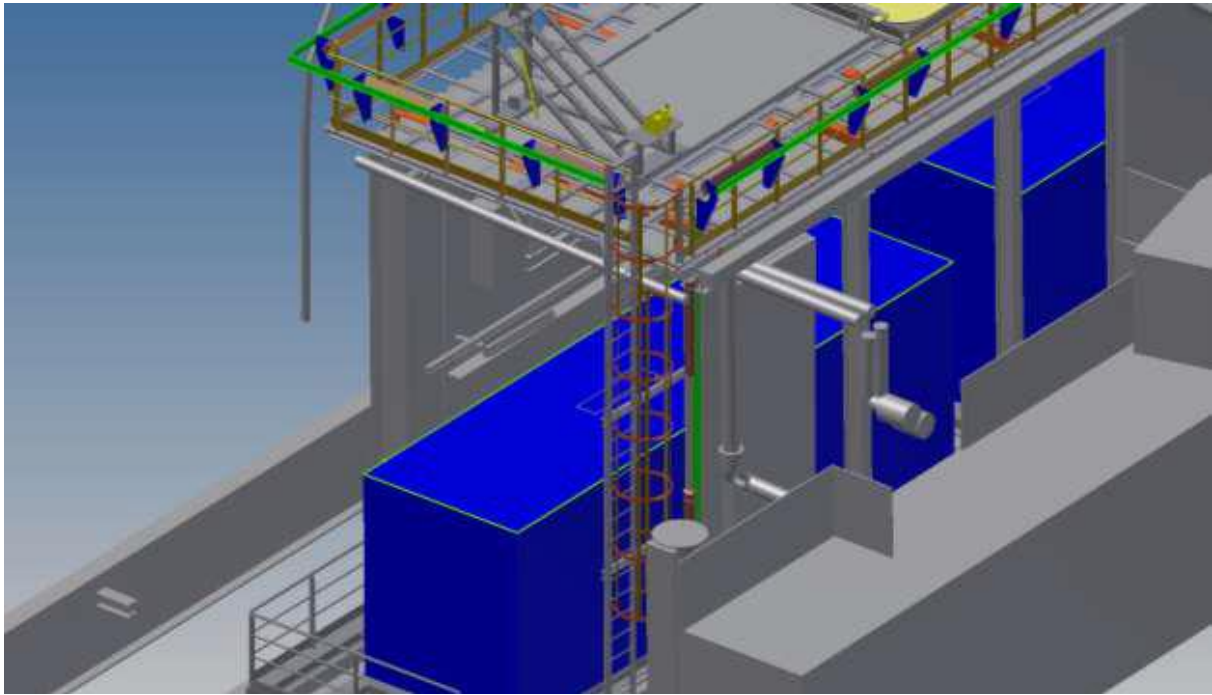
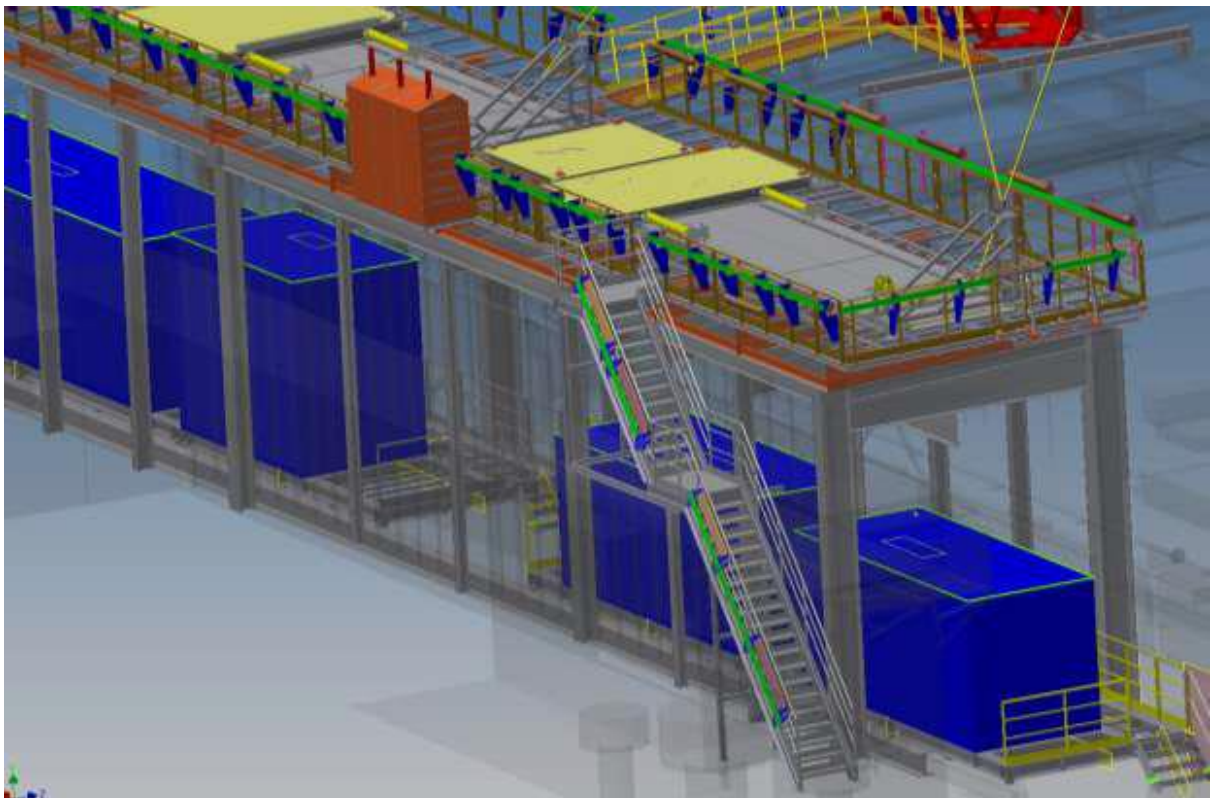

Figure 6.2.1 Emergency exit ladder on port side of WSD
Figure 6.2.2 Stair on Starboard side of WSD
- In case of emergency, there is two escape routes from WSD. One emergency exit ladder, placed on Port side(fig.6.2.1), and stairs on Starboard aft side(fig 6.2.2), See also drawing 2440-A9100. Both exits leads down to main deck. From Main Deck; follow yellow marking to muster station.